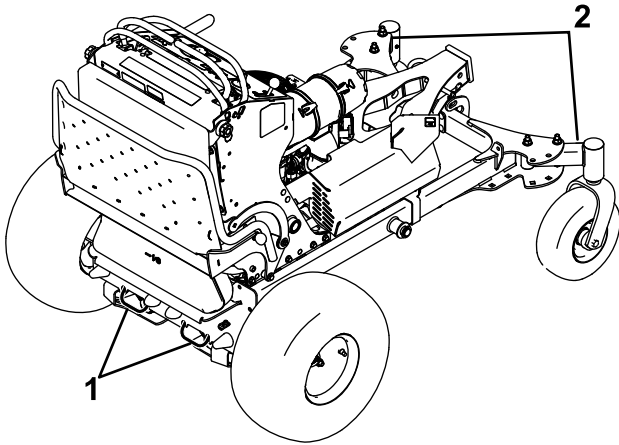

Figure 24
6. Use the metal tie-down loops and the caster-wheel frames to securely fasten the machine to the trailer or truck with straps, chains, cable, or ropes (Figure 24).